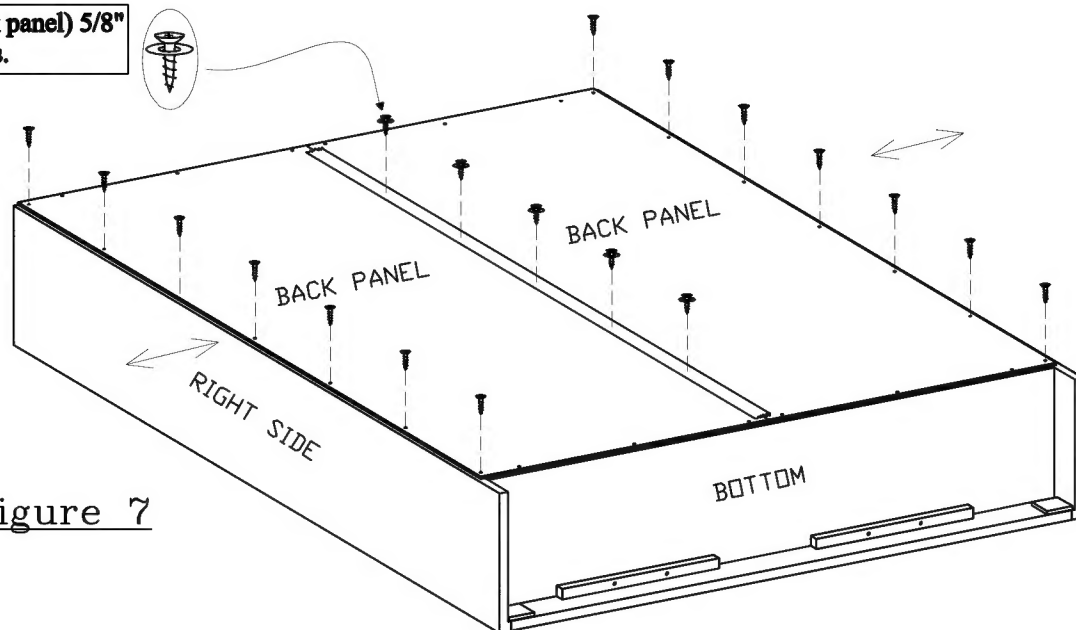

Figure 7
Step 26. The edges of the SIDE PANELS must be parallel with the edges of the BACK PANEL. If necessary, slightly push the SIDE PANELS in or out, in order to ensure an equal amount of space along the edges. See Figure 7.
Step 27. Insert and screw 7 screws along each side edge of the BACK PANEL. See Figure 7.
Step 28. Insert and screw 5 screws with washers along the tape. See Figure 7.